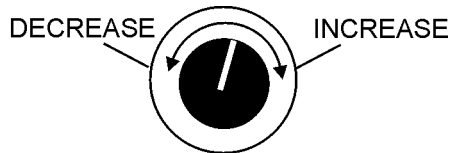

Figure 39. Voltage Adjust Control Knob
5. Use the voltage adjustment control knob (Figure 39) to increase or decrease the desired voltage.